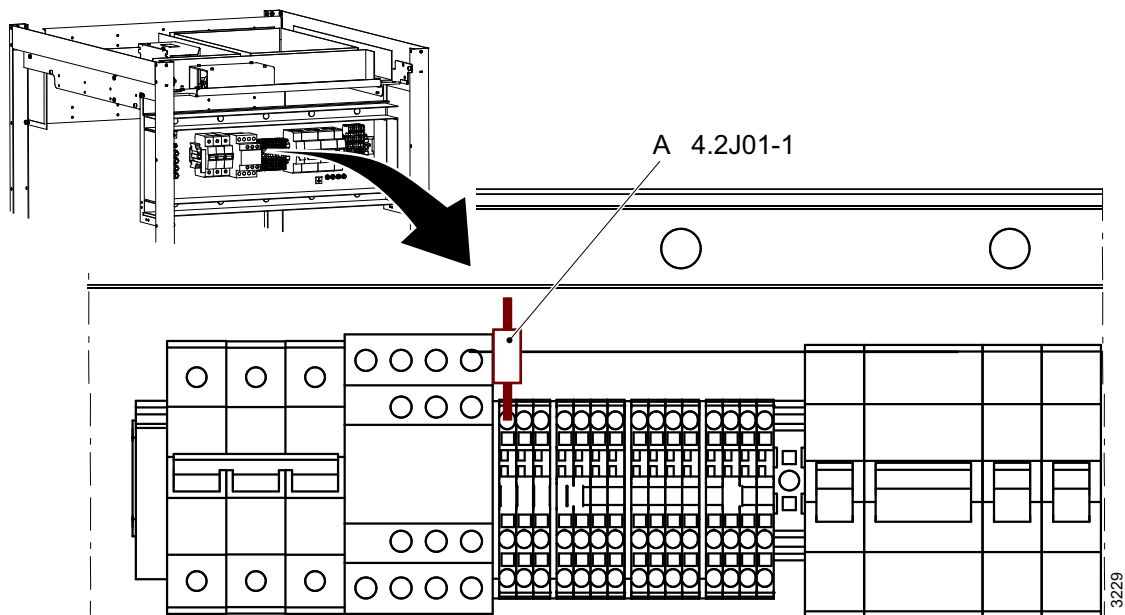

Fig. 4-89 Connect wire A
Make sure the wire (A) is connected according to Fig. 4-89.